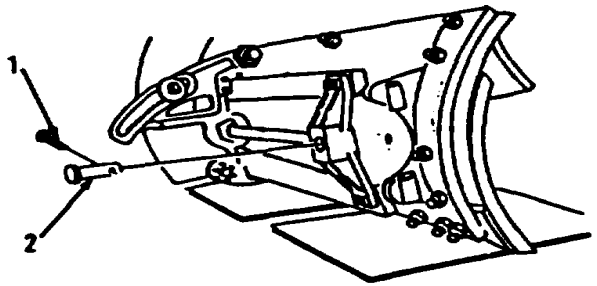

Figure 10-139.
1. Remove cotter pin (1) and pin (2, Figure 10-139). Discard cotter pin (1).